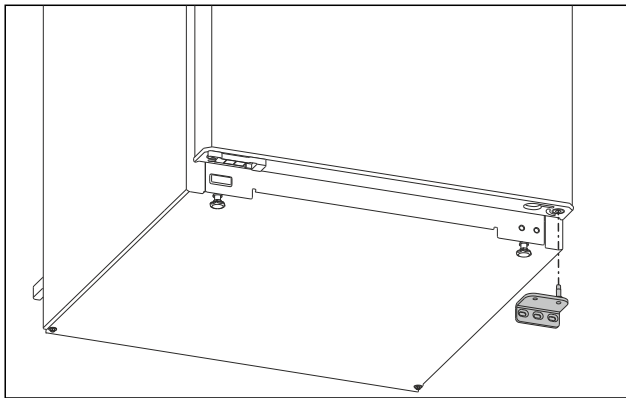

Fig. 5
- ▶ Remove the swap bearing block downwards. (see Fig. 5)